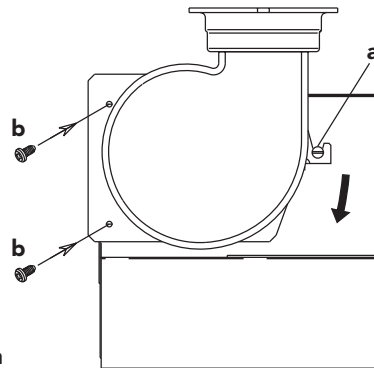

Fig. 21a
- 6.** Before mounting boiler remove fan assembly as per fig. 21a page 19.